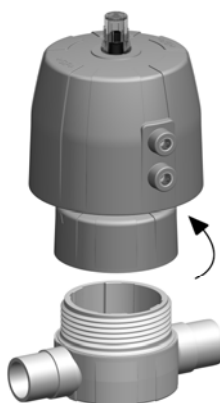

Fig. 13
- ▶ Open housing nut, see fig. 13. Use a strap wrench/ special tool for open it.